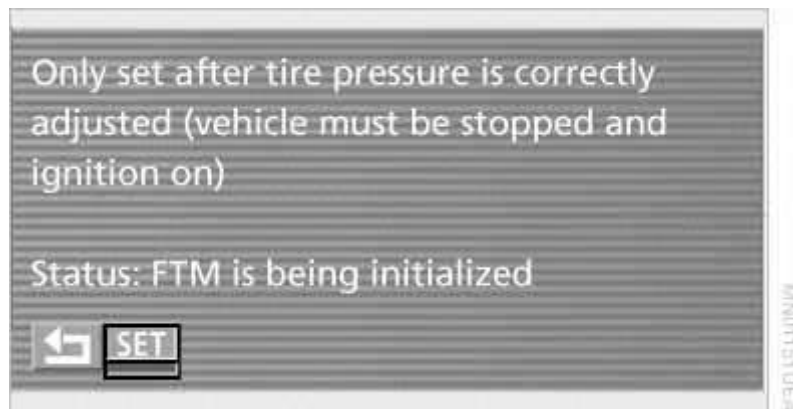

Fig. 19: Identifying TPM System Reinitialization Messages (2 Of 2)
5. Drive vehicle. The message "FTM IS BEING INITIALIZED" will be displayed. See Fig. 19.